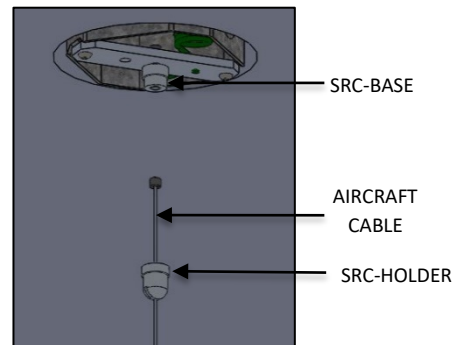

FIG. 15– AIRCRAFT CABLE INSTALLATION
12. Feed the AIRCRAFT CABLE through the SRC-HOLDER and assemble the SRC-HOLDER to SRC-BASE as shown below in FIG. 15.